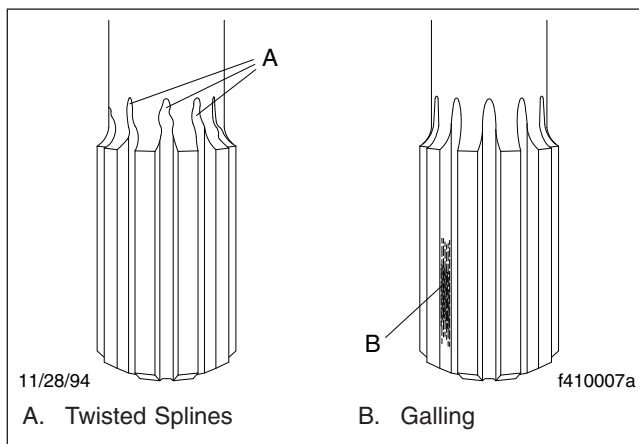

Fig. 1, Damaged Slip-Joint Splines
3. Clean the slip-joint (male and female) splines, then check them for twisting and galling. See Fig. 1. Replace both the sleeve-yoke and the splined shaft if the slip-joint is damaged; see "Driveshaft Tube, Stub Shaft (Slip-Joint), or Tube-Yoke Replacement," in Subject 150. Remove any burrs or rough spots using fine emery cloth.